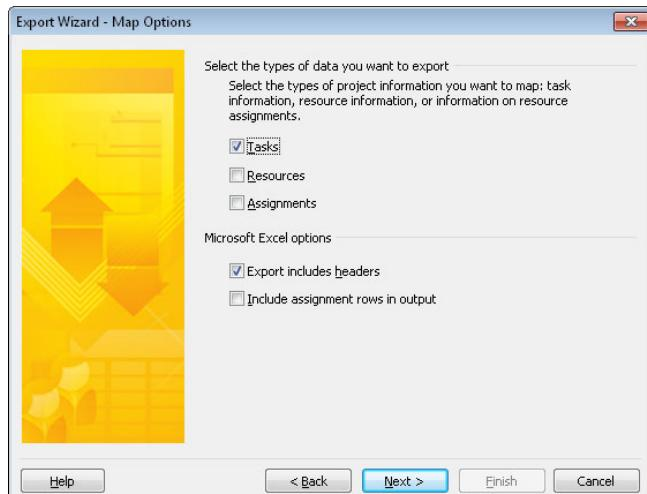

FIGURE 7-9 When you select the Export includes Headers check box, Project exports the column headings to the spreadsheet you create.
6. On the Export Wizard - Map Options page, select the Tasks check box, as shown in Figure 7-9, to export costs associated with tasks. Verify that the Export Includes Headers check box is selected so that column headings appear in the spreadsheet you create.